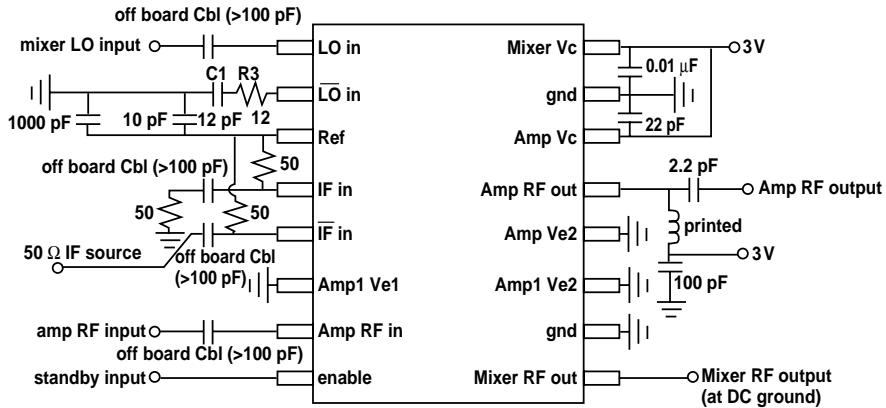

Figure 11. Test Board Configuration.
Circuit of Figure 11 with 1K Pull up Resistors for the IFs and LO and RF Ports Terminated in 50 Ω.
- [1] Circuit of Figure 11 with IF and RF Ports Terminated in 50 Ω.
- [2] As above but LO RC combination in Figure 11 changed from 12 Ω and 12 pF to 0 Ω and 2.7 pF (recommended use for >1.75 GHz).
Circuit of Figure 11 with IF and LO Ports Terminated in 50 Ω.